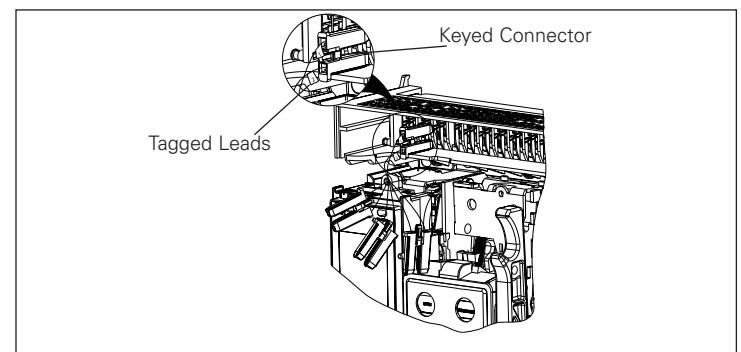

Figure 36. Leads and Connectors.
- 1 Electrical accessory leads are tagged with numbers associated with the applicable connection diagram located in technical document TD013001EN. Leads are also supplied with keyed secondary connector plugs to ensure proper connections (Figure 36).